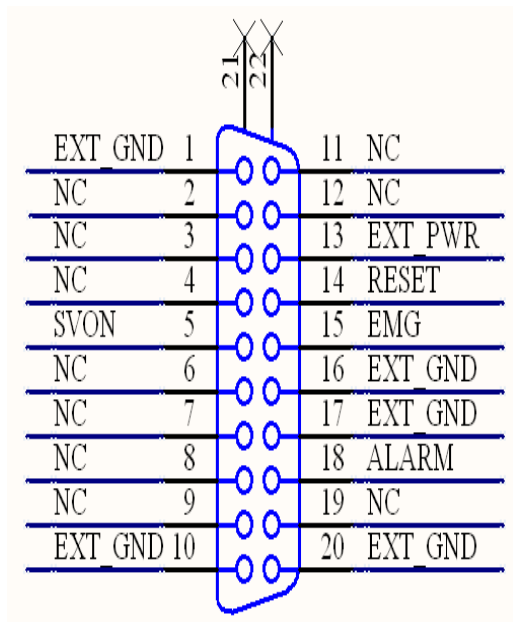

Fig 1-6 Pin definition for CN-XB, CN-YB, CN-ZB, CN-UB
■ CN-XB, CN-YB, CN-ZB, CN-UB (Fig1-6 connector for each AXIS)
The connectors CN-XB, CN-YB, CN-ZB, and CN-UB are 20-pin connectors that enable you to connect to the CNB connector of your motor drivers. Fig.1-6 shows the pin assignment for the 20-pin connector on the DN-8468MB, and the Table 1-7 shows its I/O connector signal description.